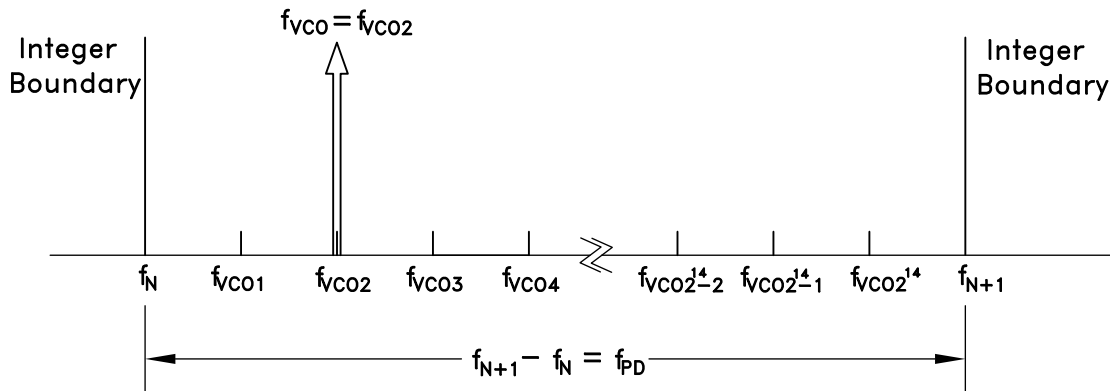

Figure 23. Exact Frequency Tuning
and f_{VCOk} are the channel step frequencies where $0 < k < 2^{24}-1$, As shown in Figure 23.
Some fractional PLLs are able to achieve this by adjusting (shortening) the length of the Phase Accumulator (the denominator or the modulus of the Delta-Sigma modulator) so that the Delta-Sigma modulator phase accumulator repeats at an exact period related to the interval frequency ($f_{VCOk} - f_{VCO(k-1)}$) in Figure 23. Consequently the shortened accumulator results in more frequent repeating patterns and as a result often leads to spurious emissions at multiples of the repeating pattern period, or at harmonic frequencies of $f_{VCOk} - f_{VCO(k-1)}$. For example, in some applications, these intervals might represent the spacing between radio channels, and the spurious would occur at multiples of the channel spacing.
If it is desirable to have multiple, equally spaced, exact frequency channels that fall within the same interval (ie. $f_N \leq f_{VCOk} < f_{N+1}$) where f_{VCOk} is shown in Figure 23 and $1 \leq k \leq 2^{14}$, it is possible to maintain the same integer-N (Reg 03h) and exact frequency register (Reg 0Ch) settings and only update the fractional register (Reg 04h) setting. The Exact Frequency Channel Mode is possible if (EQ 17) is satisfied for at least two equally spaced adjacent frequency channels, i.e. the channel step size.
To configure Hittite PLL for Exact Frequency Channel Mode, initially and only at the beginning, integer (Reg 03h) and exact frequency (Reg 0Ch) registers need to be programmed for the smallest f_{VCO} frequency (f_{VCO1} in Figure 23), as follows:
1. Calculate and program the integer register setting $\text{Reg 03h} = N_{INT} = \text{floor}(f_{VCO1}/f_{PD})$, where f_{VCO1} is shown in Figure 23 and corresponds to minimum channel VCO frequency. Then the lower integer boundary frequency is given by $f_N = N_{INT} \cdot f_{PD}$.
$\text{Reg04h} = N_{FRAC} = \text{ceil}\left(\frac{2^{24}(f_{VCOk} - f_N)}{f_{PD}}\right)$ where $f_N = \text{floor}(f_{VCO1}/f_{PD})$, and f_{VCO1} , as shown in Figure 23, represents the smallest channel VCO frequency that is greater than f_N .
4. To change from channel 1 ($f_{VCO1} = 2000.2$ MHz) to channel 2 ($f_{VCO2} = 2000.3$ MHz), only **Reg 04h** needs to be programmed, as long as all of the desired exact frequencies f_{VCOk} (Figure 23) fall between the same integer-N boundaries ($f_N < f_{VCOk} < f_{N+1}$). In that case